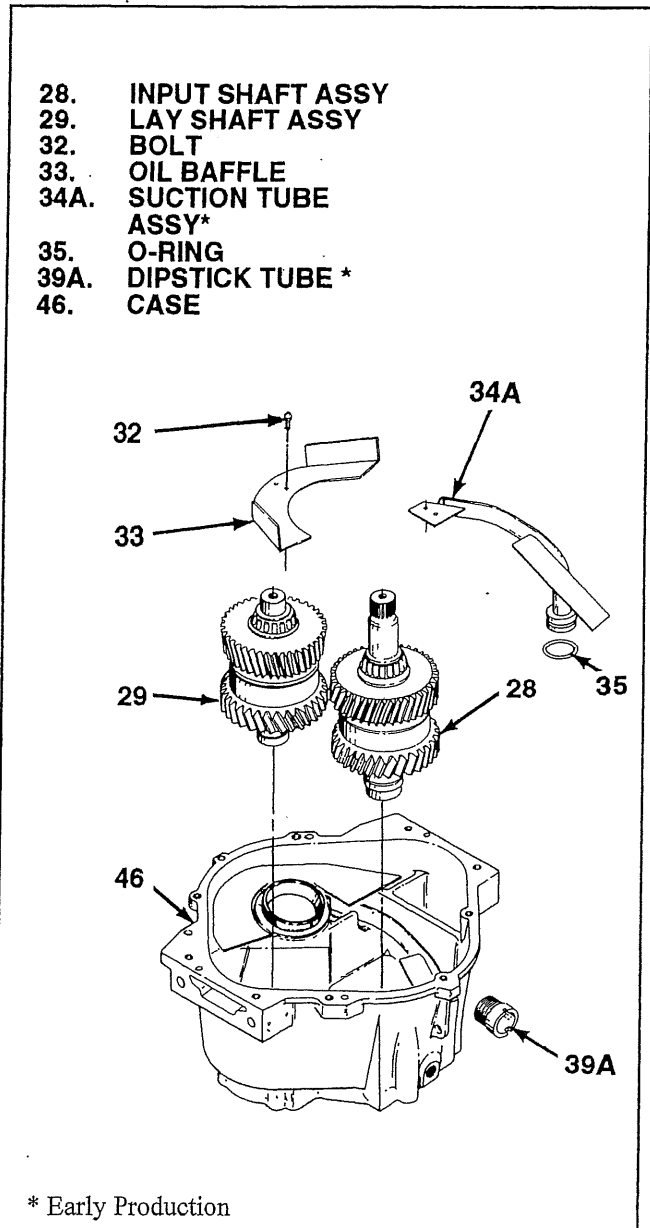
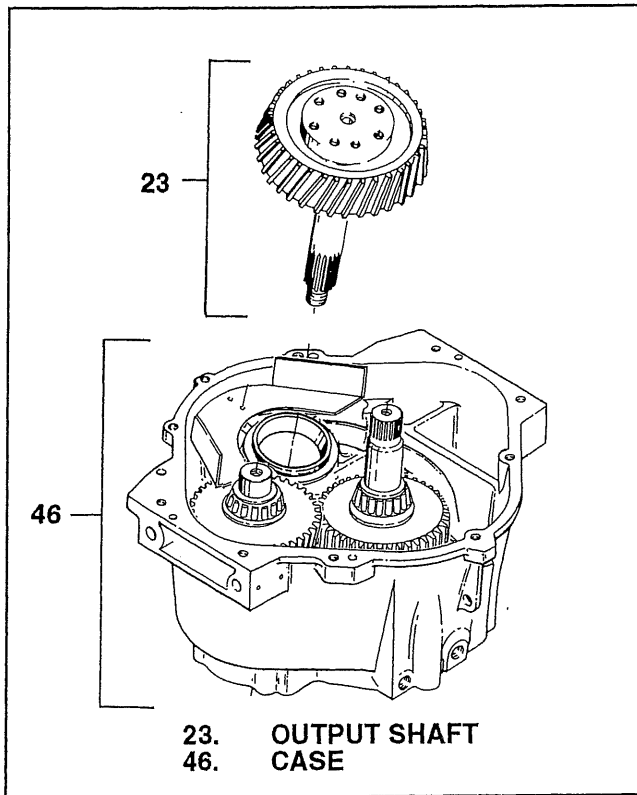
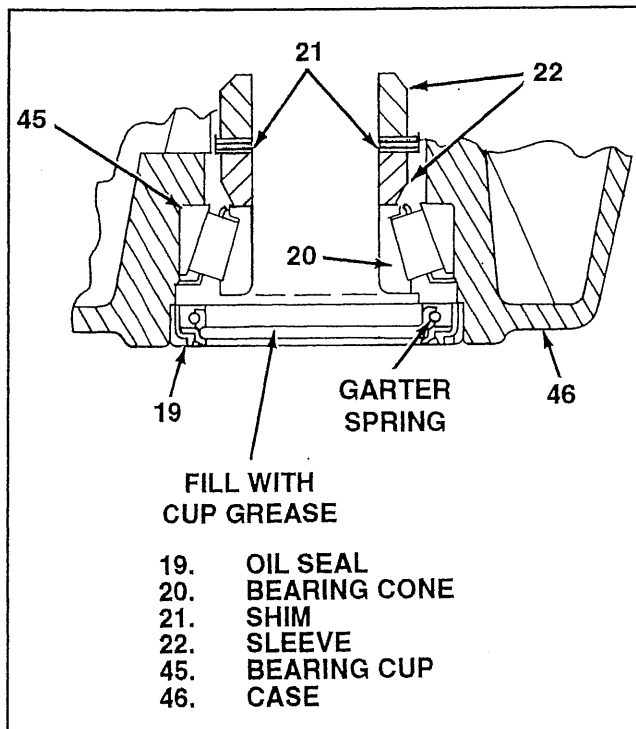

Figure 5-15. Input and Lay Shaft Assemblies
Figure 5-16. Installing Output Shaft/Gear Assembly
Figure 5-17. Placement of Sleeves and Shims for Assembly
**ASSEMBLIES.** Using lay shaft assembly as assembled in paragraph 5-4, input shaft assembly as assembled in paragraph 5-8 (see figure 5-15) and output shaft as assembled in paragraph 5-18 step "i" proceed as follows (see figure 5-16).
**NOTE:** If oil pick up tube (34A see figure 5-15) is used, perform step "2" before step "1".
1. Install oil pick up tube (34), oil baffle (33) and secure with two bolts (32). Use Loctite ® 242 on bolts (32).
2. Position lay shaft/clutch assembly (29) and input shaft/clutch assembly (28) in case (46). (see figure 5-15).
3. Check to make sure the garter spring is correctly positioned on the output seal (19) (see figure 5-17). Coat the large diameter of both sleeves
(22) and shims (21) established in 5-18 step "h" with cup grease. Place sleeves (22) and shims (21) in case (46) cavity, resting on bearing cone (20) and seal (19) as illustrated in figure 5-17.
**NOTE:** The total shim and sleeve (22) thickness installed at this point must be the same thickness as established in 5-19 step "h".
4. Carefully insert output shaft/gear as illustrated in figure 5-16.
5. Install output flange (18) and flange nut (17) to hold assembly in place. It can be tightened later.